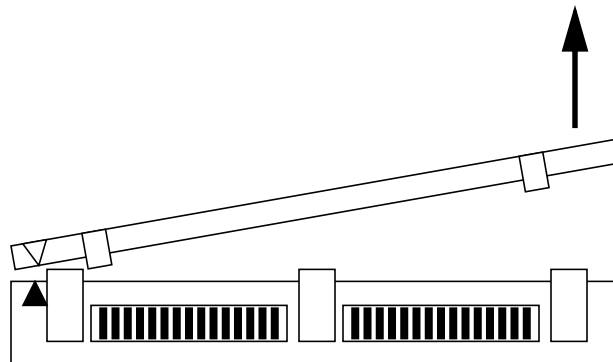

Figure 4 CPU Module Unmating
- To remove the CPU module first release any fasteners holding the assembly together. Then lift the module so that it is first lifted at the end opposite to the A1 position (Figure 4).